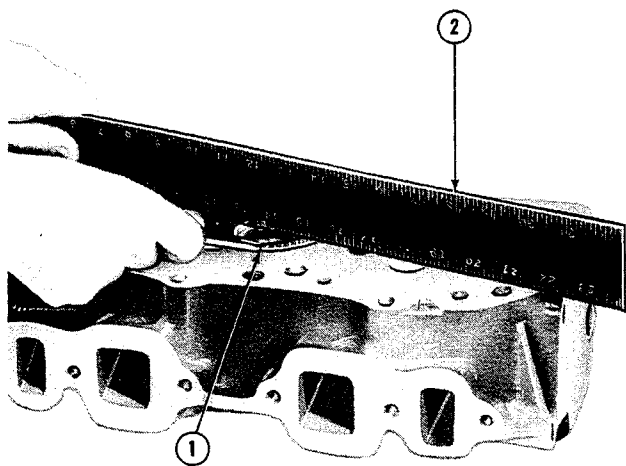

Figure 14
2. With a straight edge and feeler gauge, check the flatness of the cylinder head, as shown in Figure 14. Specifications for flatness are 0.006 in. (0.15 mm) maximum overall, or 0.003 in. (0.76 mm) in any six inches (152.40 mm).